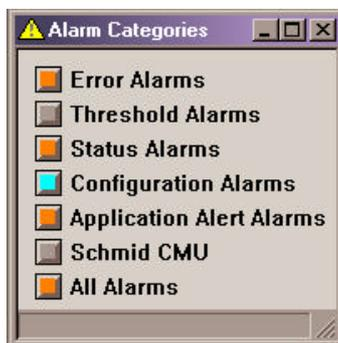

Figure 2: Alarm Categories
- A smaller window entitled ALARM CATEGORIES (see Figure 2).
The smaller window, entitled ALARM CATEGORIES (Figure 2), generally stays open at the top right corner of the screen and has the following functions: